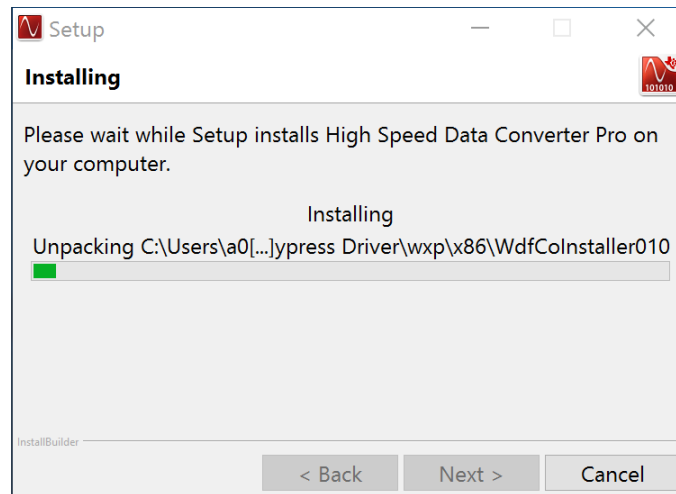

Figure 27. HSDC Pro Install (Cypress Driver Install)
- The Cypress Driver begins installing as shown in Figure 27.